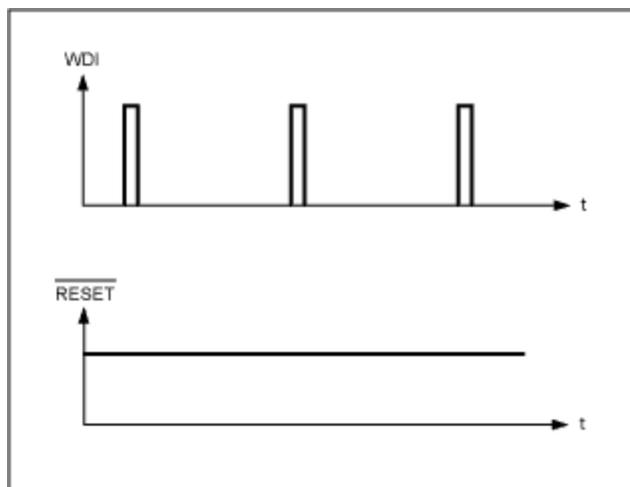
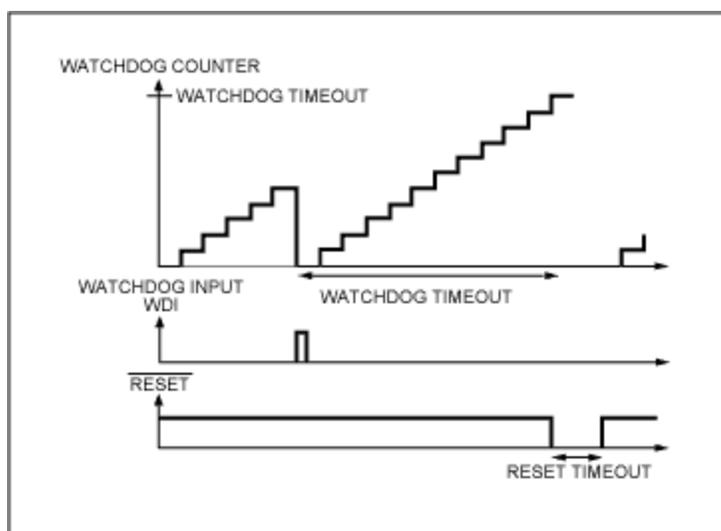

Figure 3. If the WDI pin is always toggled within the watchdog timeout, no reset is generated.
Figure 4. As soon as the watchdog counter reaches the timeout value, a reset is generated.
**Figure 3** shows the watchdog and reset signal for normal operation (watchdog is cleared within timeout period). In **Figure 4**, a reset is generated after the watchdog counter reaches the timeout. Industry-